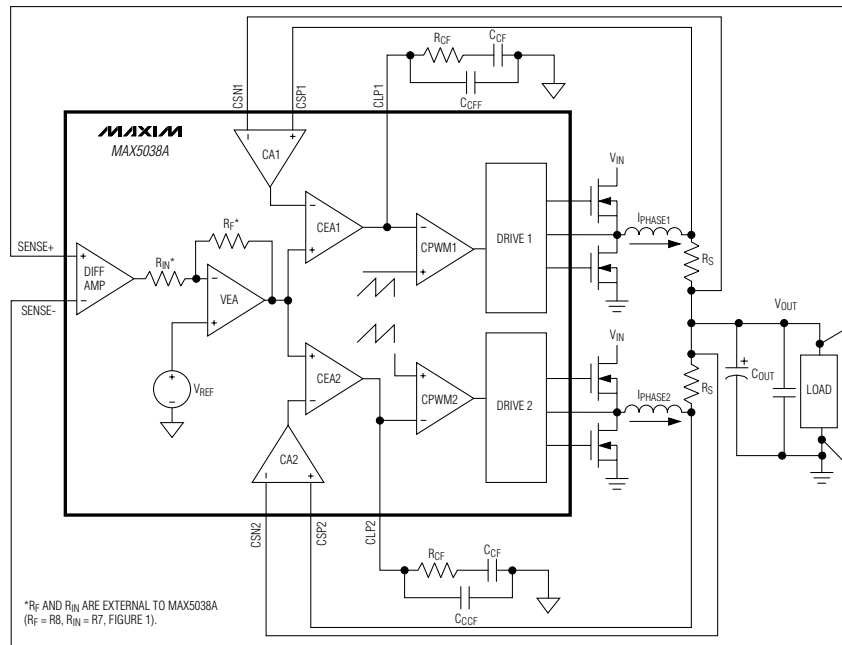

Figure 3a. MAX5038A Control Loop
The MAX5038A/MAX5041A use an average-current-mode control scheme to regulate the output voltage (Figures 3a and 3b). The main control loop consists of an inner current loop and an outer voltage loop. The inner loop controls the output currents (IPHASE1 and IPHASE2) while the outer loop controls the output voltage. The inner current loop absorbs the inductor pole reducing the order of the outer voltage loop to that of a single-pole system.
The outer voltage control loop consists of the differential amplifier (DIFF AMP), reference voltage, and VEA. The unity-gain differential amplifier provides true differential remote sensing of the output voltage. The differential amplifier output connects to the inverting input (EAN) of the VEA. The noninverting input of the VEA is internally connected to an internal precision reference voltage. The MAX5041A reference voltage is set to +1.0V and the MAX5038A reference is set to the preset output voltage. The VEA controls the two inner current loops (Figures 3a and 3b). Use a resistive feedback network to set the VEA gain as required by the adaptive voltage-positioning circuit (see the *Adaptive Voltage Positioning* section).
Each phase of the MAX5038A/MAX5041A has a dedicated transconductance current-error amplifier (CEA\_) with a typical  $g_m$  of 550 $\mu$ S and 320 $\mu$ A output sink and source current capability. The current-error amplifier outputs, CLP1 and CLP2, serve as the inverting input to the PWM comparator. CLP1 and CLP2 are externally accessible to provide frequency compensation for the inner current loops (Figures 3a and 3b). Compensate CEA\_ such that the inductor current down slope, which becomes the up slope to the inverting input of the PWM comparator, is less than the slope of the internally generated voltage ramp (see the *Compensation* section).
The differential amplifier (DIFF AMP) facilitates output voltage remote sensing at the load (Figures 3a and 3b). It provides true differential output voltage sensing while rejecting the common-mode voltage errors due to high-current ground paths. Sensing the output voltage directly at the load provides accurate load voltage sensing in high-current environments. The VEA provides the difference between the differential amplifier output (DIFF) and the desired output voltage. The differential amplifier has a bandwidth of 3MHz. The difference between SENSE+ and SENSE- regulates to the preset output voltage for the MAX5038A and regulates to +1V for the MAX5041A.
The VEA output clamps to +0.9V (plus the common-mode voltage of +0.6V), thus limiting the average maximum current from individual phases. The maximum average-current-limit threshold for each phase is equal to the maximum clamp voltage of the VEA divided by the gain (18) of the current-sense amplifier. This allows for accurate settings for the average maximum current for each phase. Set the VEA gain using  $R_F$  and  $R_{IN}$  for the amount of output voltage positioning required as discussed in the *Adaptive Voltage Positioning* section (Figures 3a and 3b).
Average-current-mode control has the ability to limit the average current sourced by the converter during a fault condition. When a fault condition occurs, the VEA output clamps to +0.9V with respect to the common-mode voltage ( $V_{CM} = +0.6V$ ) and is compared with the output of the current-sense amplifiers (CA1 and CA2) (see Figures 3a and 3b). The current-sense amplifier's gain of 18 limits the maximum current in the inductor or sense resistor to  $I_{LIMIT} = 50mV/R_S$ .